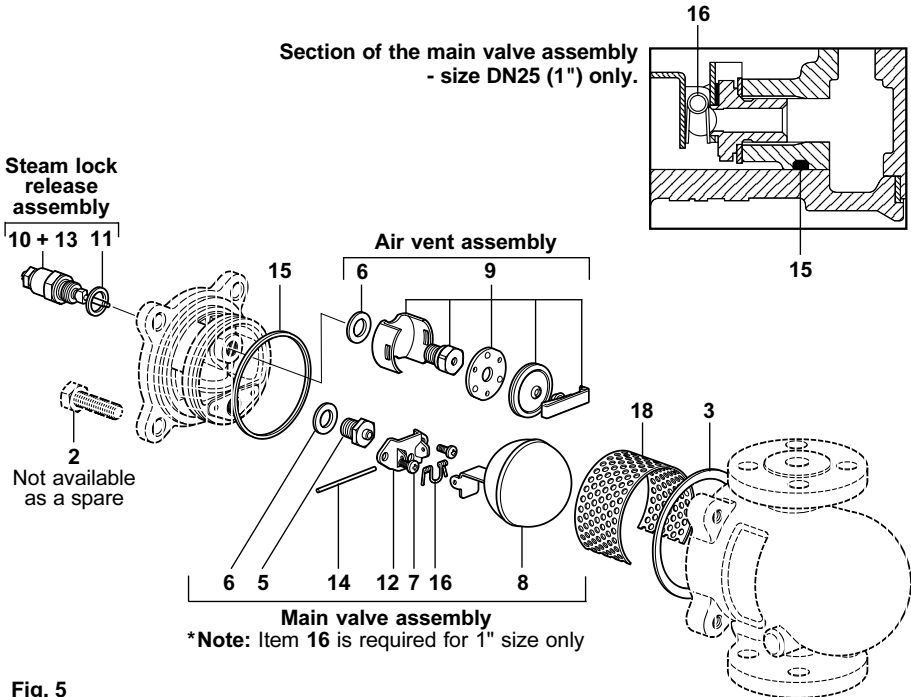

Fig. 5
**Note: The following Sections need to be read in conjunction with Figure 5, page 8.**